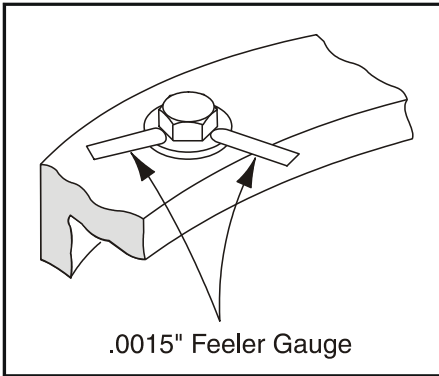

Figure 3-50. Swing Bolt Feeler Gauge Check
- b. At the position indicated on Figure 3-50. try to insert the 0.0015" feeler gauge between the bolt head and hardened washer at the arrow indicated position.